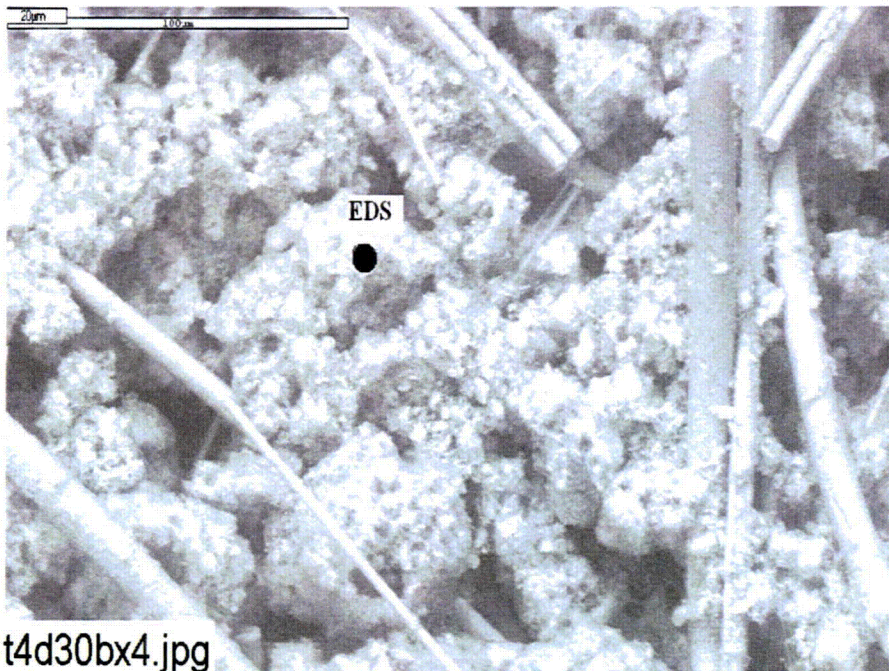

Figure C7-2. Annotated environmental SEM image magnified 500 times for a Test #4, Day-30 exterior fiberglass sample within the birdcage. (t4d30bx4.jpg)
- Figure C7-2. Annotated environmental SEM image magnified 500 times for a Test #4, Day-30 exterior fiberglass sample within the birdcage. (t4d30bx4.jpg)..... C7-4
- Figure C7-3. EDS counting spectrum for the particulate deposits on fiberglass shown in Figure C7-2. (T4D30bx3.jpg) C7-5